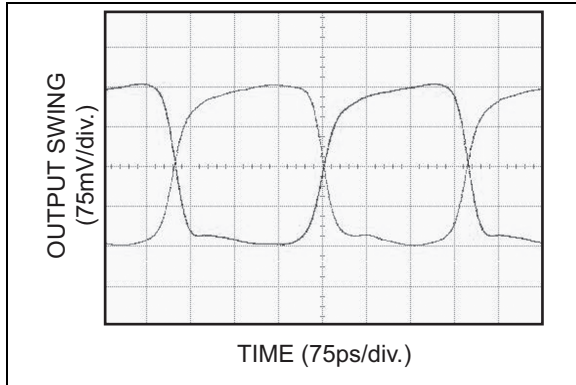

FIGURE 4-12: 2 GHz Clock.
- Corrected parameters of Figure 4-12.